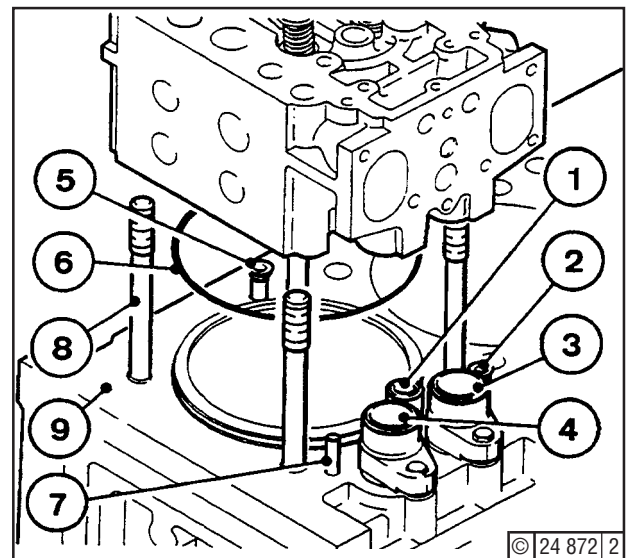

Fig. 1
Watch for corrosion in the area of annular gap between waisted stud shank (8) - Fig. 1 - and crankcase upper part (9). In case slight corrosion, remove and clean waisted stud. In case of more distinct corrosion marks, renew waisted studs, see under "Note".
- Replace O-seals (1) to (5) on the plug-in pieces (Fig. 1).
- Fit centering pin (7).
- Position cylinder head gasket (6) in place.